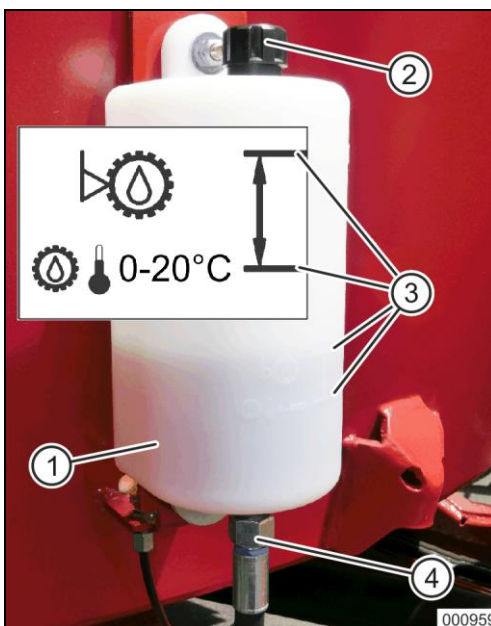

Fig. 102
7. Place the drip tray beneath the drain valve (1).
8. Hang the oil drain hose (4) into the drip tray.
9. Unscrew the cap (3).
10. Use the union nut (2) to screw the oil drain hose (4) onto the drain valve.
13. Fill gear lubricant oil through the filling pump into the mixer gearbox until the gear lubricant oil is flowing in the compensating reservoir and the oil level is visible between the two markings (Fig. 102/3).